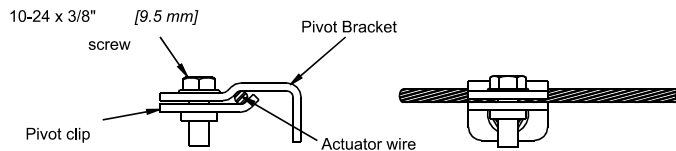

Figure 47. Clamping to actuator wire
2. Using the first pan away from the actuator, push the inner cone to the open position. Place the actuator wire between the pivot bracket and pivot clip then tighten the 10-24 screw, see figure 47.